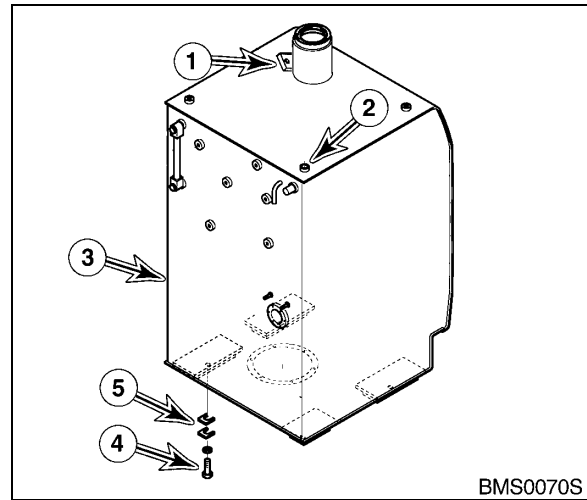

Figure 10
20. Install two 12 mm eye bolts in threaded holes (1 and 2, Figure 10). Using a suitable lifting device, sling eye bolts.
21. Remove six bolts and washers (4, Figure 10) holding tank (3) to the frame. Lift tank 25 mm (1 in) and make sure it is balanced. Make sure that there are no other electrical wires or hoses connected to the tank. Completely remove the tank after inspection.
22. Remove shims (5, Figure 10).